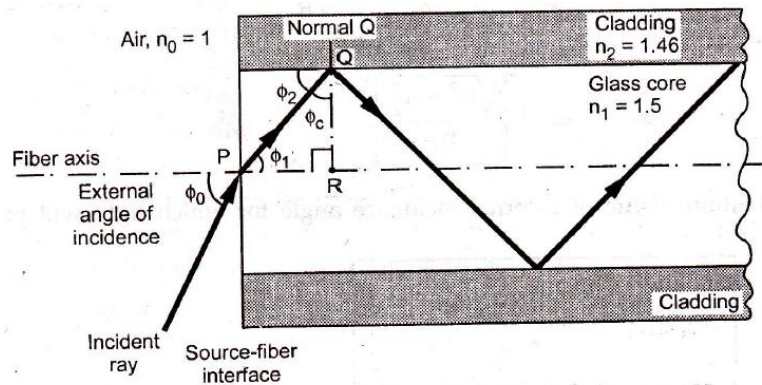

Fig. 1.6.8 Ray propagation by TIR
- A light beam is focused at one end of cable. The light enters the fibers at different angles. Fig. 1.6.8 shows the conditions exist at the launching end of optic fiber. The light source is surrounded by air and the refractive index of air is  $n_0 = 1$ . Let the incident ray makes an angle  $\phi_0$  with fiber axis. The ray enters into glass fiber at point P making refracted angle  $\phi_1$  to the fiber axis, the ray is then propagated diagonally down the core and reflect from the core wall at point Q. When the light ray reflects off the inner surface, the angle of incidence is equal to the angle of reflection, which is greater than critical angle.